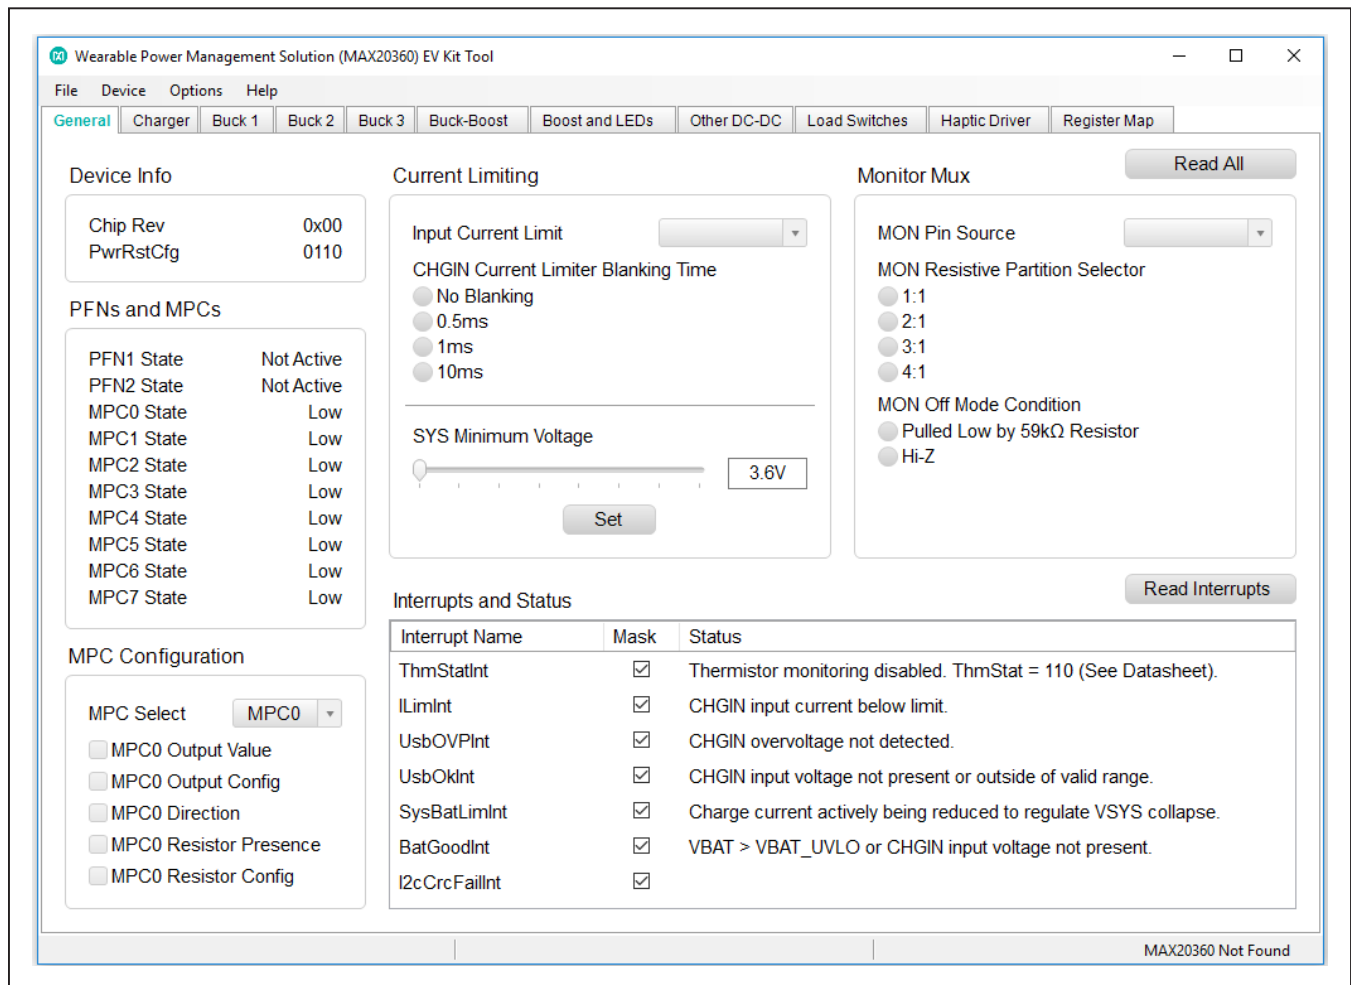
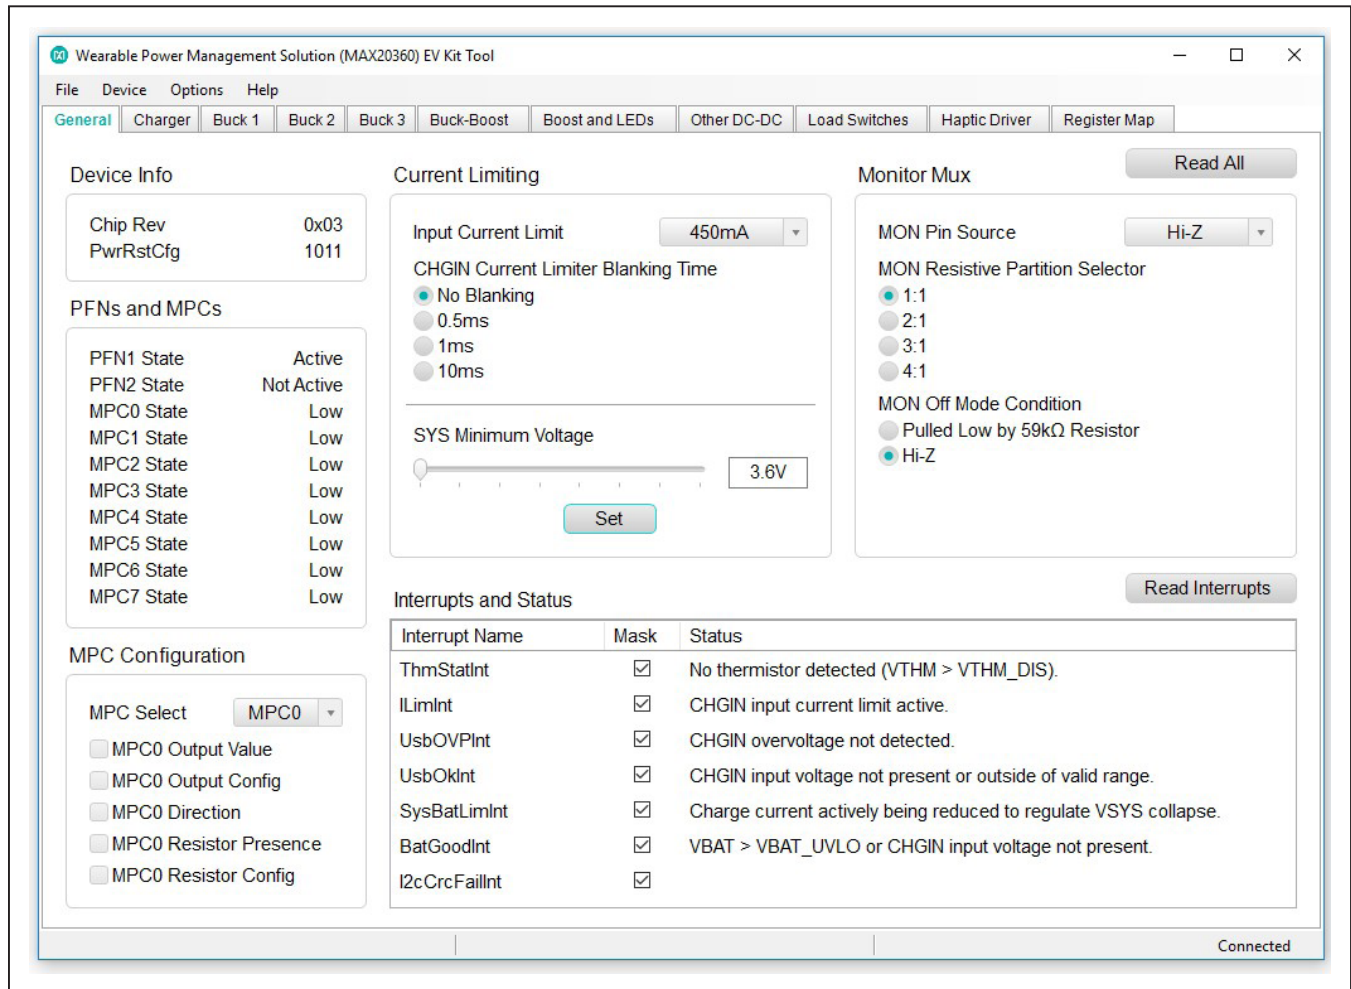

Figure 1. MAX20360 Not Found Status
Figure 2. Connected Status
- 7) On the computer, open the MAX20360 GUI. For the MAX20360EVKIT#, the status bar on the bottom displays **MAX20360 Not Found** (Figure 1). The IC is in Seal Mode. For the MAX20360HEVKIT#, the status bar on the bottom displays **Connected** (Figure 2). The IC is in Battery Recovery Mode.
- 8) Press the PB1 (/KIN) button shortly, then the device enters ON mode. For the MAX20360EVKIT, the GUI then shows **Connected** and the registers are read and displayed (Figure 2).